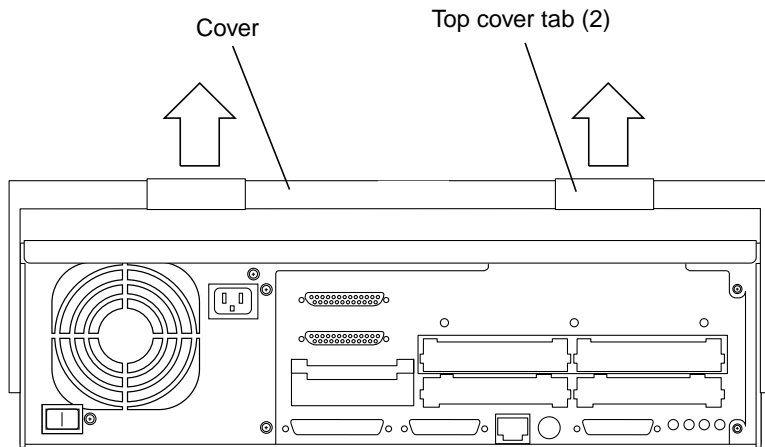

FIGURE 2-4 Removing the Ultra 2 System Cover
2. Pull the two top cover tabs to free the cover from the back panel (FIGURE 2-4).